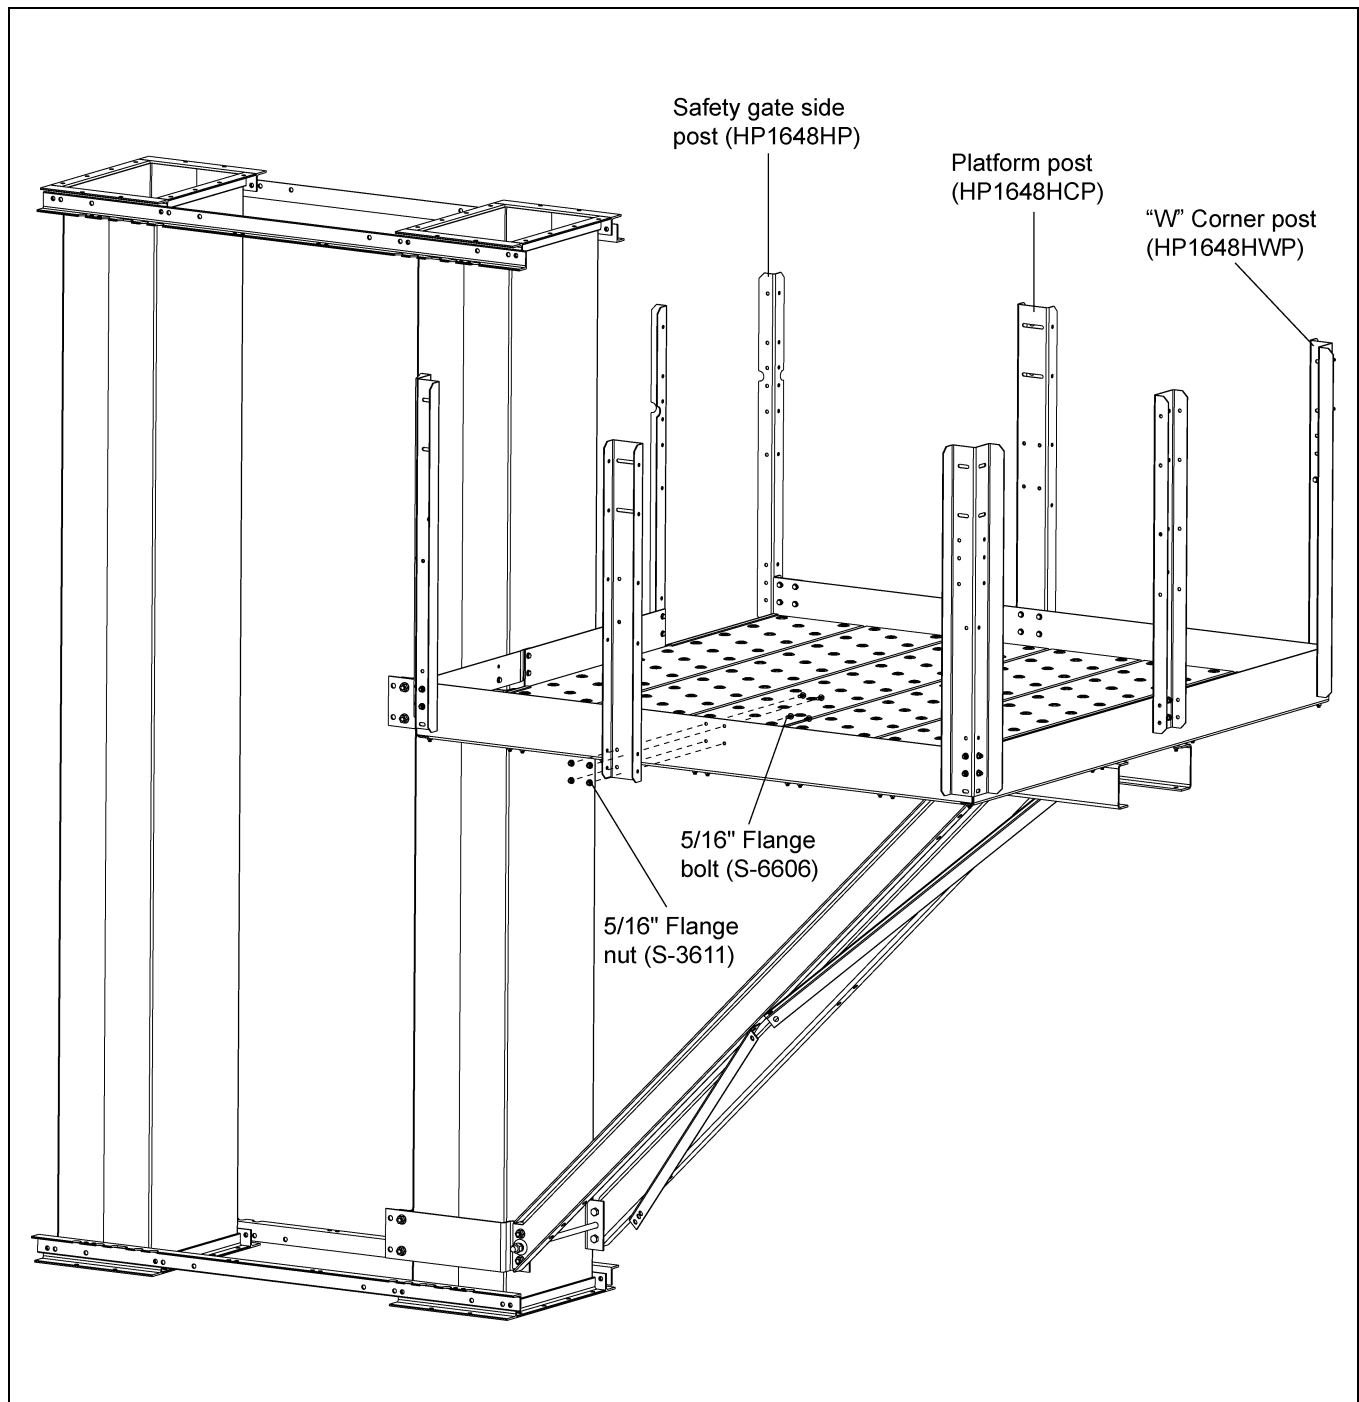

Figure 10J
Figure 10J shows the assembly of three (3) "W" corner posts (HP1648HWP), three (3) platform posts (HP1648HCP) and two (2) safety gate side posts (HP1648HP). This must all be assembled using 5/16" hardware.